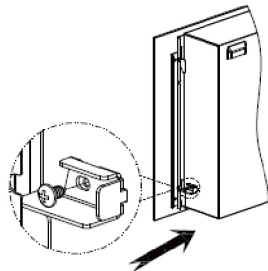

Fig.6
- Insert and tighten the front glass panel screw-See Fig.6 to secure the front glass panel to the heater.